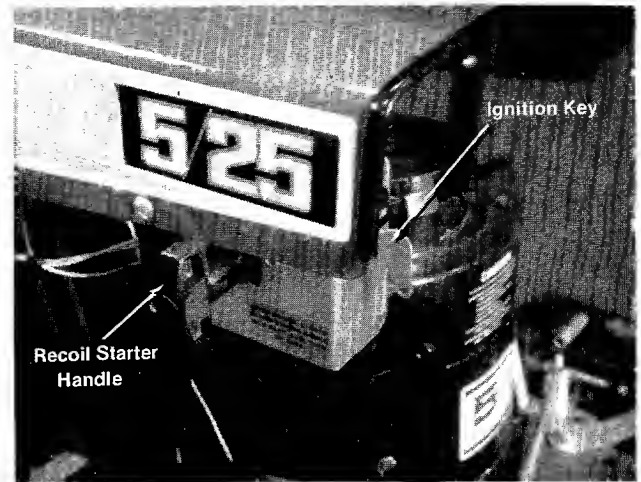

FIGURE 12
- B. The Recoil Starter Handle is located on the left hand side of the hood. To operate the recoil starter handle, twist it until it is in the horizontal position and pull to start the engine. After the engine starts, return the Recoil Starter Handle to the mounting bracket and turn it to the vertical position as shown in figure 12.
- C. The Ignition Key must be turned to the right to the ON position before the Recoil Starter Handle is pulled to start the engine. Turn the Ignition Key to the left to the OFF position to stop the engine. See figures 12 and 13.